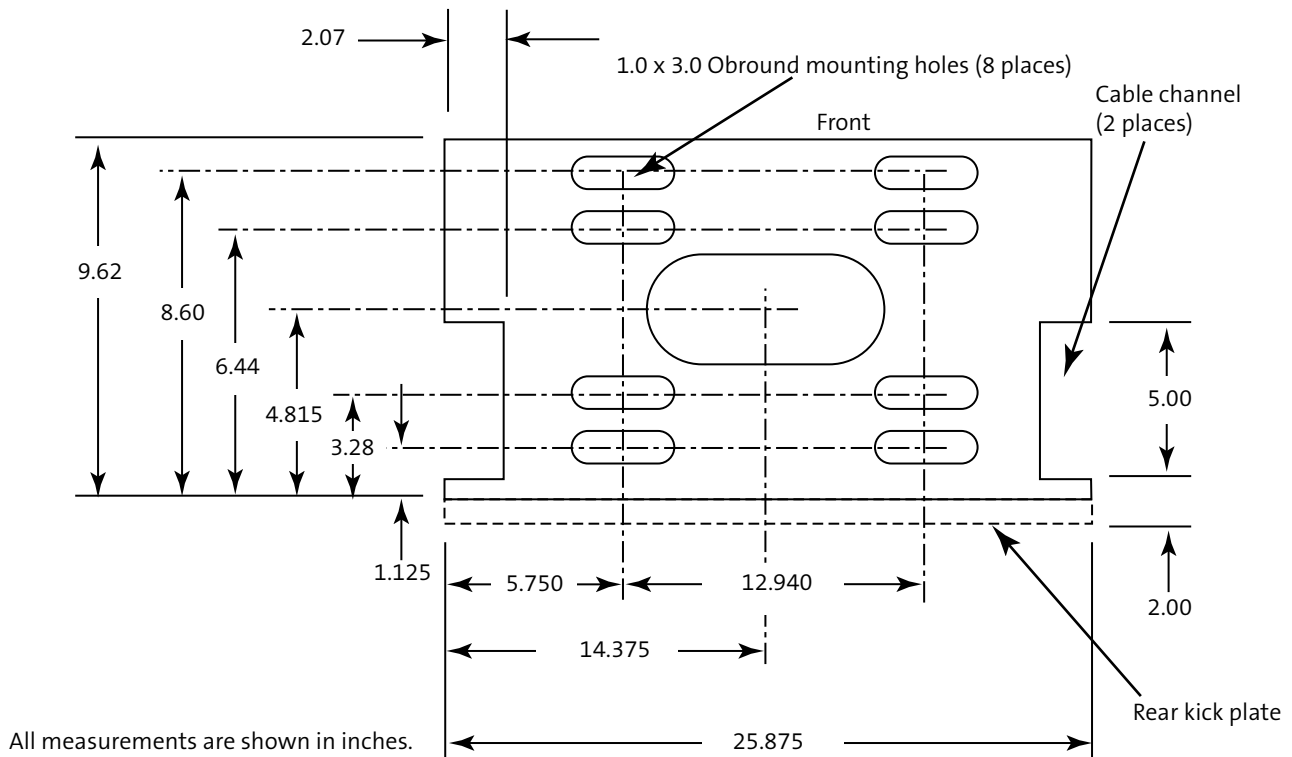

Figure 3
Step 3: Place the preassembled utility rack in the position it will occupy and mark the hole locations for drilling. See Figure 3 for hole locations.